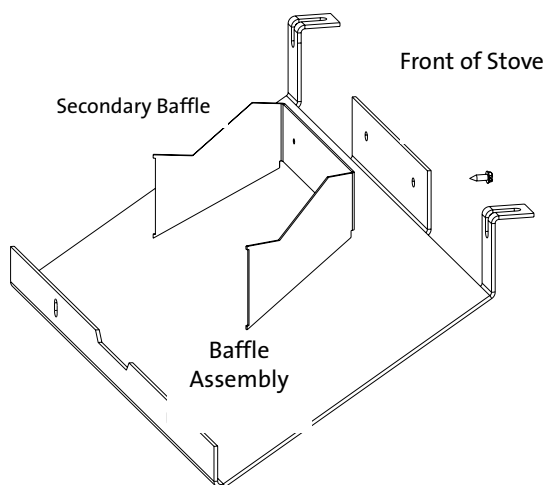

Figure 5.7.
- Detach the Secondary Baffle with removal of two sheet metal screws shown in fig. 5.7. Replace the screws and retain the Secondary Baffle for potential future use.